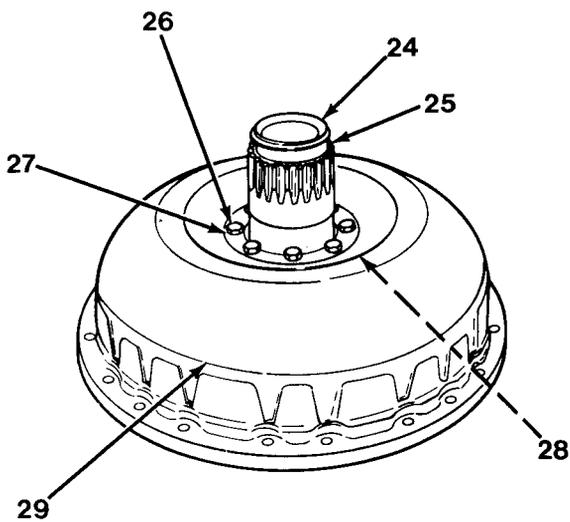

Figure 11-8
12. Remove seal ring (24) from impeller hub (25, Figure 11-8).
13. Remove eight bolts (26), washers (27), impeller hub (25) and O-ring (28) from impeller (29).
1. Install O-ring (28), impeller hub (25), eight washers (27) and bolts (26) on impeller (29, Figure 11-8).